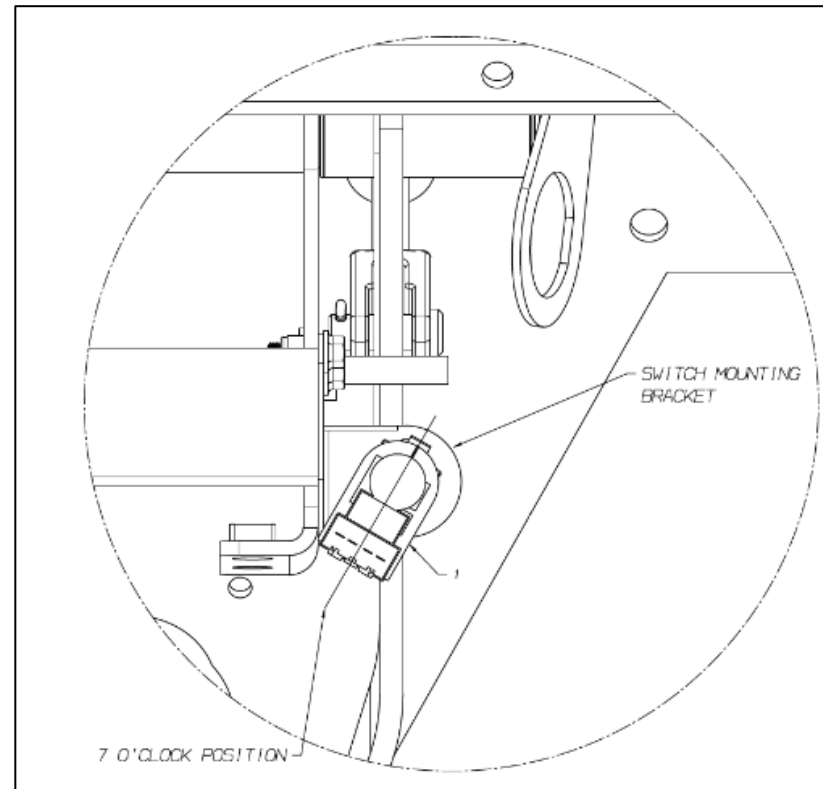

Figure 1
3. Rotate the service brake switch clockwise to the 7 o'clock position, and remove. (Figure 1)